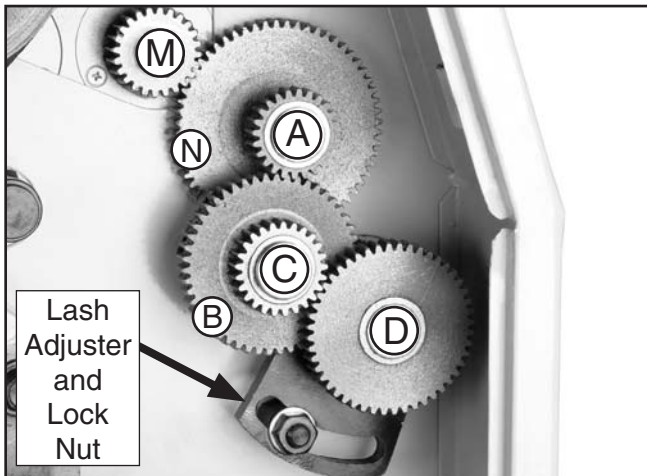

Figure 33. Change gear locations.
2. Refer to the **Change Gear Chart** on **Page 31** to determine the needed combination of gears and which spindle location to install each gear on. See **Figure 33** for the gear installation locations that are referenced by the chart.
4. Loosen the lash adjuster (**Figure 33**) and swing the assembly out of the way.
3. Loosen the lash adjuster (**Figure 33**) and swing the assembly out of the way.